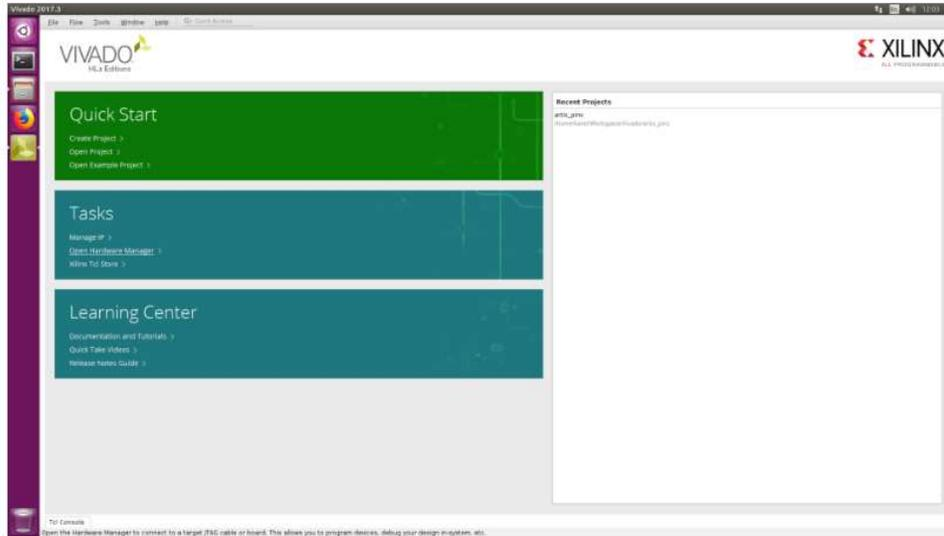

Figure 48: Vivado start [sc02]
4. The Vivado start screen appears. On the tile "Tasks", select "Open hardware manager" (Figure 48,  STMA-69271 - Figure 48: Vivado start [sc02]);